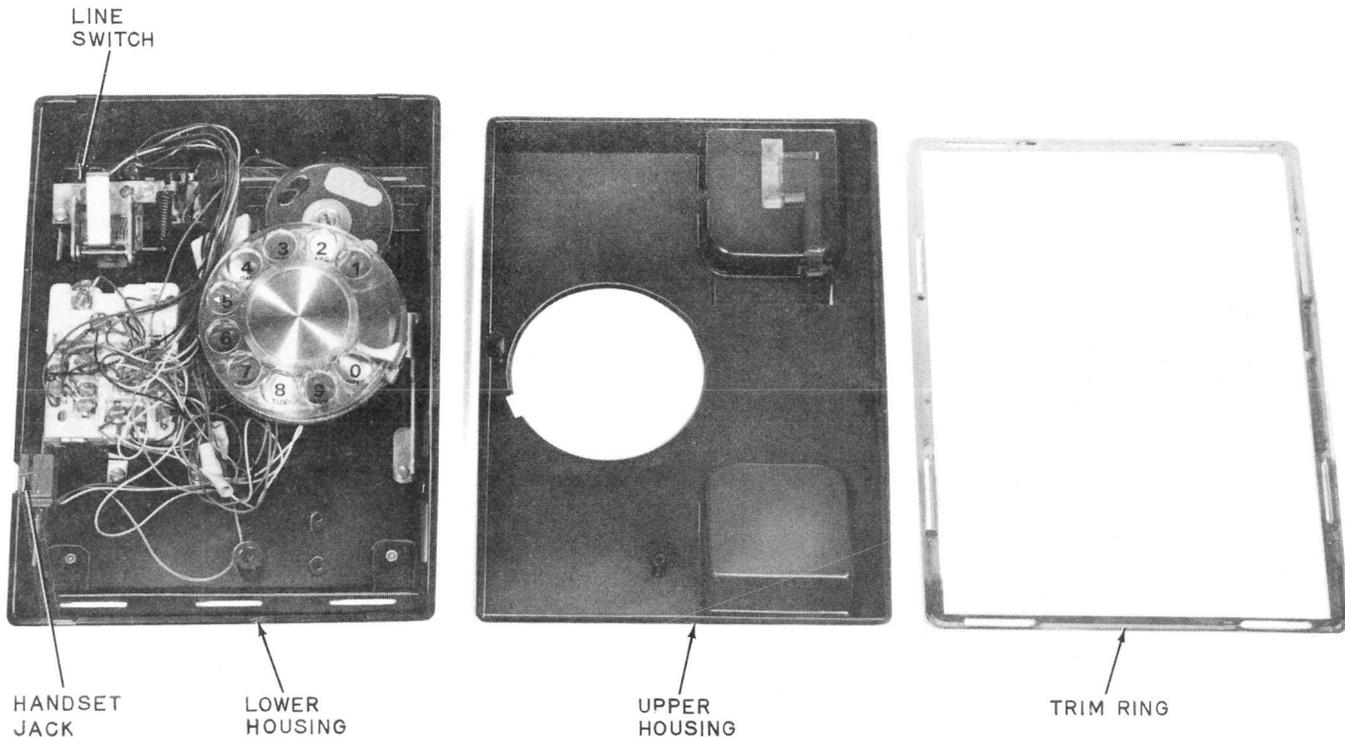

Fig. 4—900B Telephone Set With Upper Housing and Trim Ring Removed
**3.07** If a polarity guard is required, mount the guard assembly to the two bosses located in front of dial on the lower housing (Fig. 4).